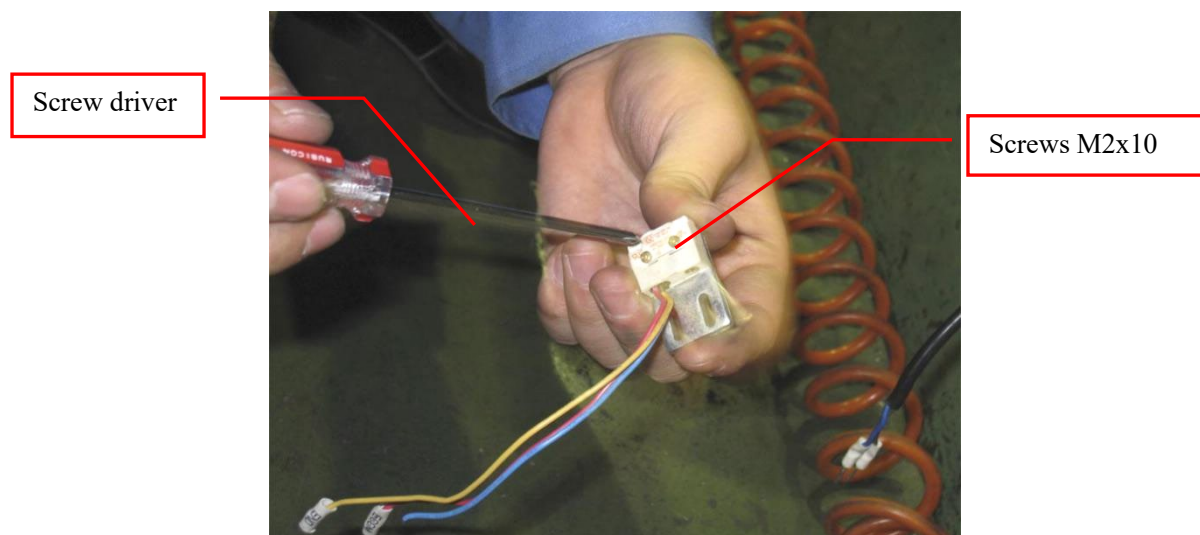
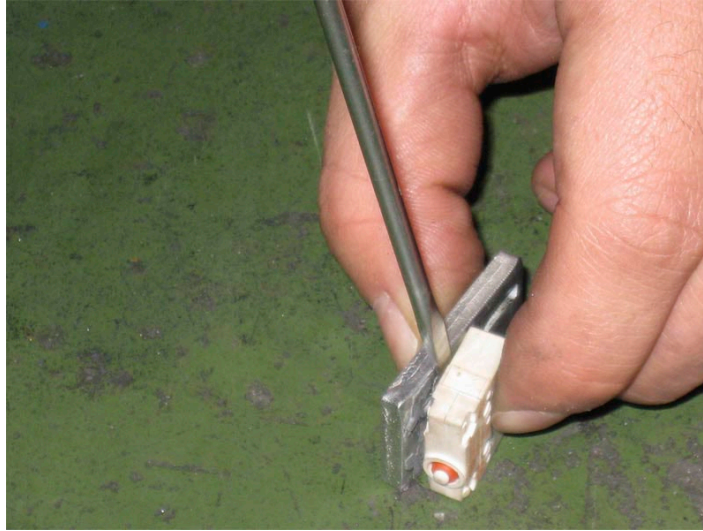

Figure 25 Remove Brake Switch from bracket
Figure 26 Separate Brake switch and bracket
5. Loosen the screws M2x10 using a Philips head screw driver. The switch is secured with glue, so use the straight head screwdriver to separate it from the bracket. See Figure 25 and Figure 26.